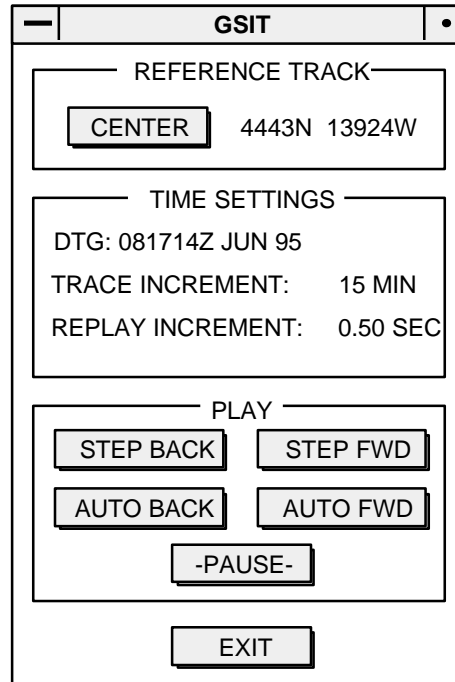

Figure 10.12-2 GSIT Window
The GSIT window (Figure 10.12-2) appears (1) if one track is selected when the G-SIT option is selected, or (2) when a track is chosen from the SELECT REFERENCE TRACK window.